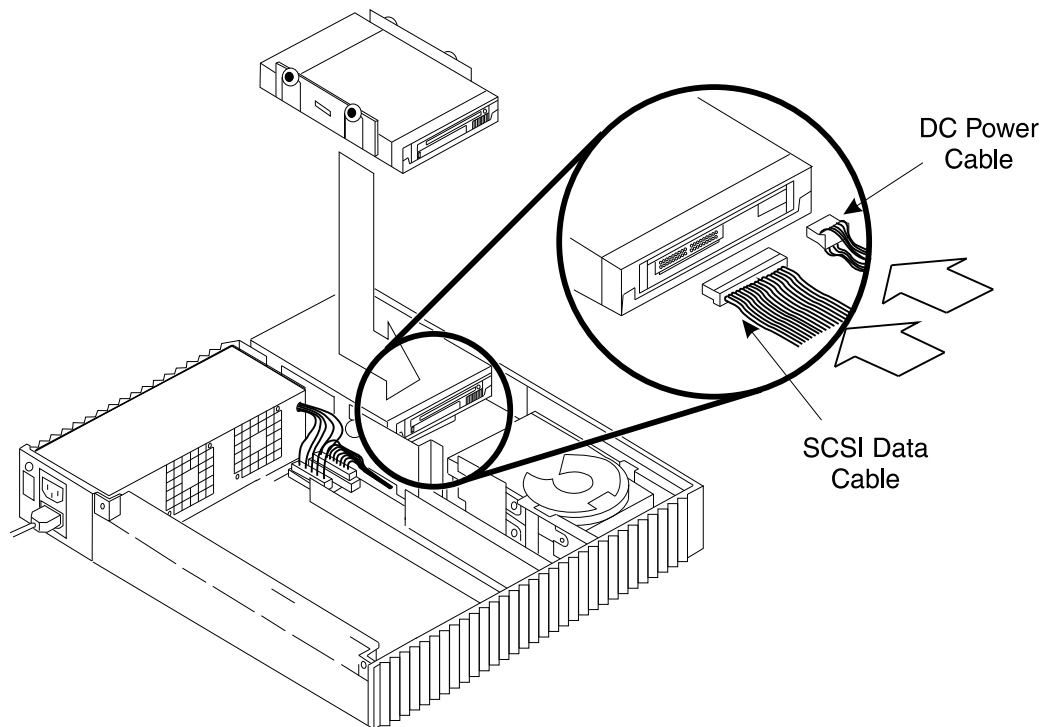
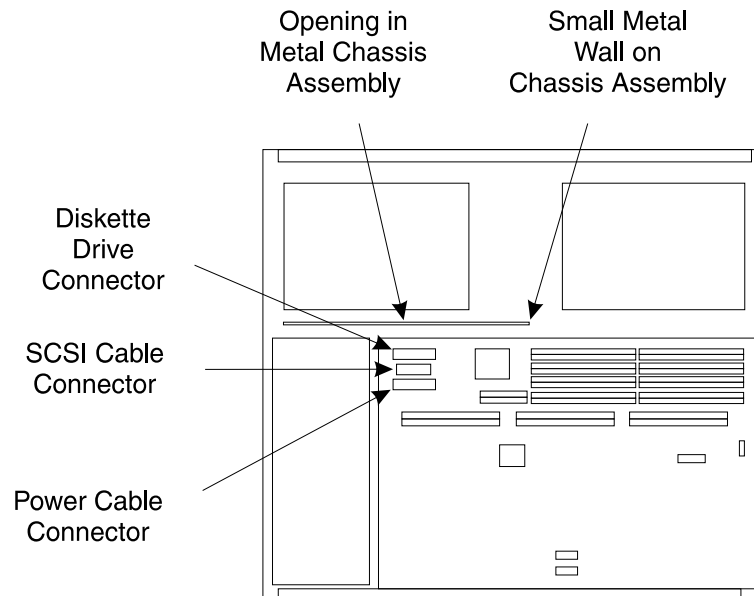

Figure D-34: Inserting the Internal CD-ROM Drive
Figure D-35: Internal CD-ROM Drive — SCSI Cable Connector Location
6. Insert the drive in the system, and push the drive towards the center of the system (see Figure D-34)
7. Connect the power cable to the back of the CD-ROM drive (see Figure D-34).
8. Attach one end of the SCSI data cable to the connector on the back of the CD-ROM drive (see Figure D-34), and the other end of the SCSI data cable to the connector on the system board (see Figure D-35).